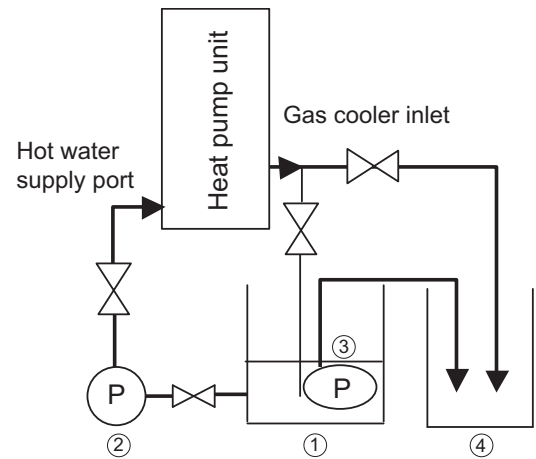

Figure 4 Exhaust water circuit
Connect the container to collect used cleaning water as shown in Figure 4.
Exhaust water drainage route (See Figure 4.): (①)→(②)→Heat pump unit→(④)
Order in which submersible pump is to be used (See Figure 4.): (③)→(④)